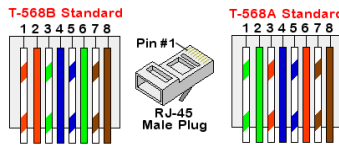

Figure 29: Ethernet connector - pin layout
CAT6 cables have eight wires (four twisted pairs), as shown in the pin layout of the Ethernet connector in *Figure 29*. Wire colors may differ from one cable to another. You can use either wiring standard, as long as both sides of the cable have the same pin-out
- Insert the eight wires into an RJ45 connector, as shown in *Figure 29*.